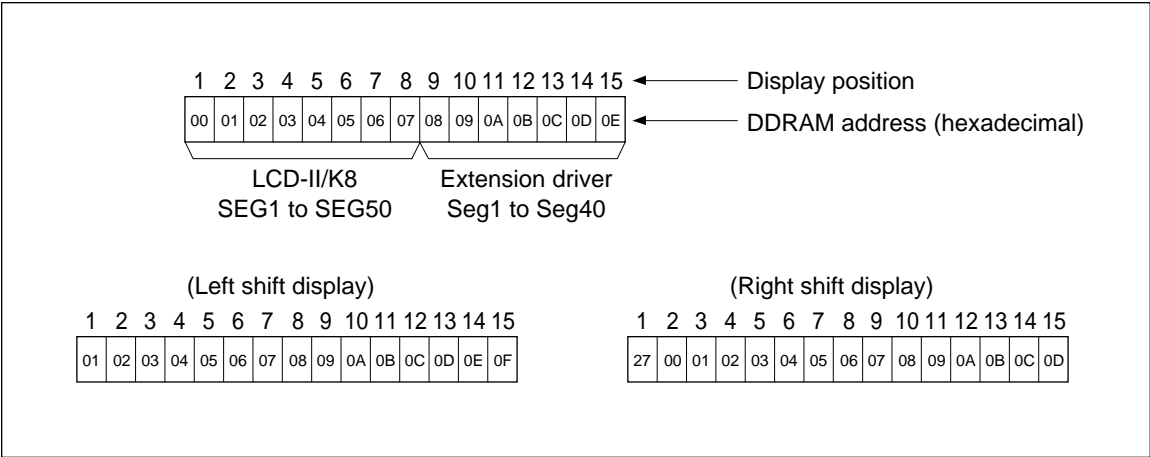

Figure 4 1-Line by 15-Character Display (6-Dot Font) Using One HD66720 and One Extension Driver
- Case 2: Figure 4 shows the case where the HD66720 and the 40-output extension driver are used to display 15 6-dot font-width characters.